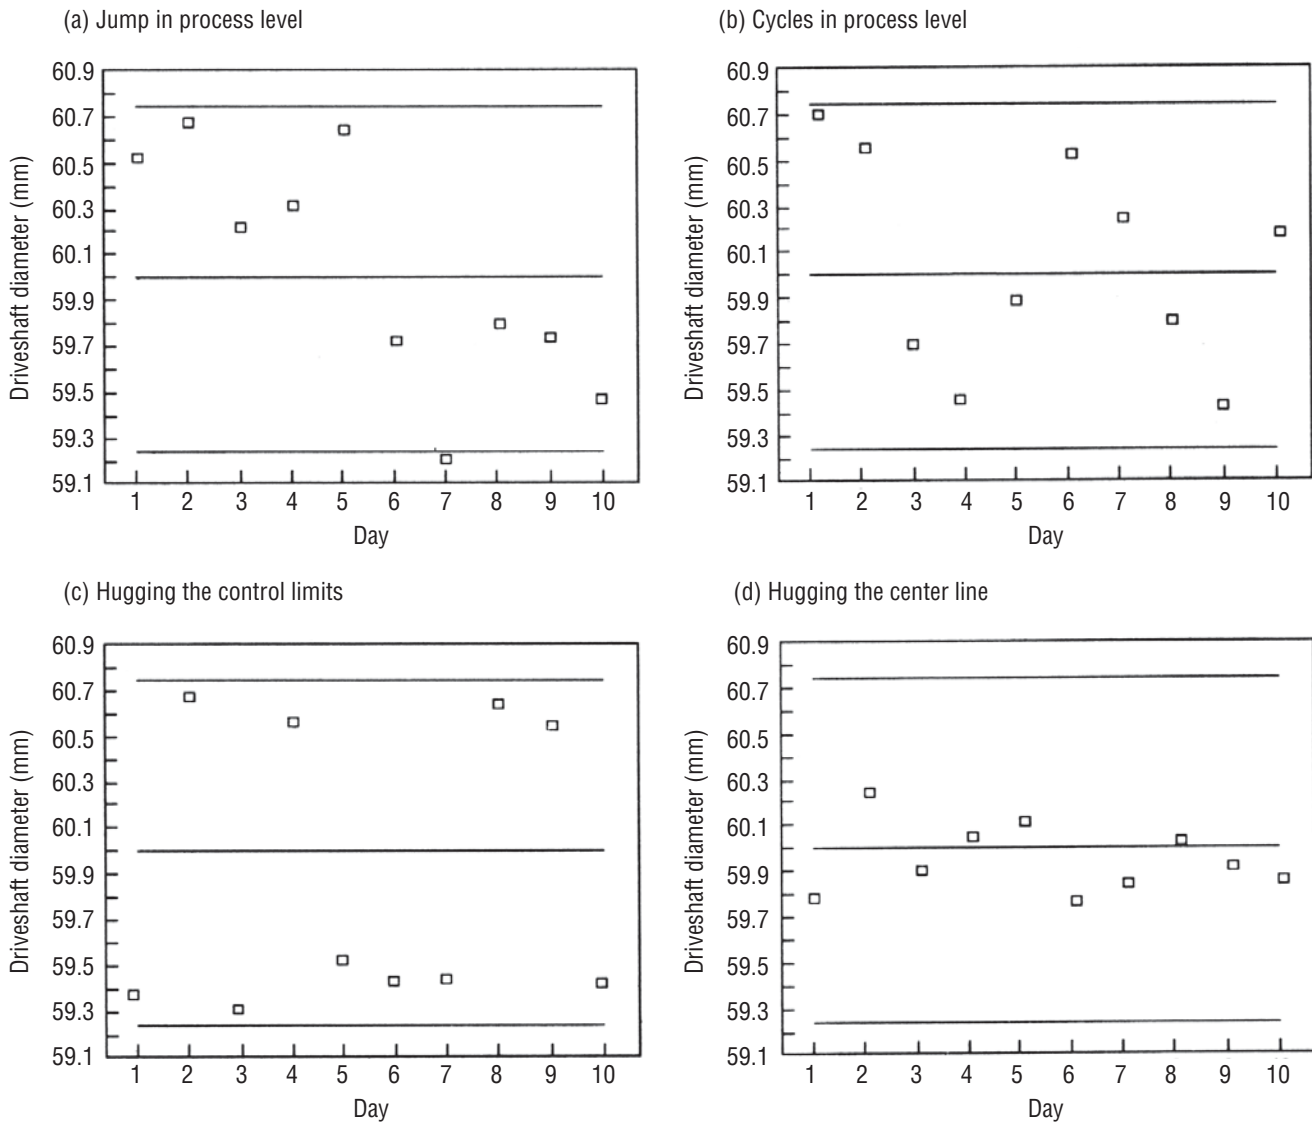

FIGURE 10-2 NONRANDOM PATTERNS IN CONTROL CHARTS
- **Jumps in the level around which the observations vary** (Figure 10-2(a)). These indicate that the process mean may have shifted.
- **Cycles** (Figure 10-2(b)). Such regularly repeating waves above and below the center line could indicate such things as worker fatigue and changeover between work shifts.
- **“Hugging the control limits”** (Figure 10-2(c)). Uniformly large deviations from the mean can indicate that two distinct populations are being observed.
- **“Hugging the center line”** (Figure 10-2(d)). Uniformly small deviations from the mean indicate that variability has been reduced from historic levels; this is generally desirable. If it can be maintained, the control limits should be tightened to make sure that this improved quality continues.